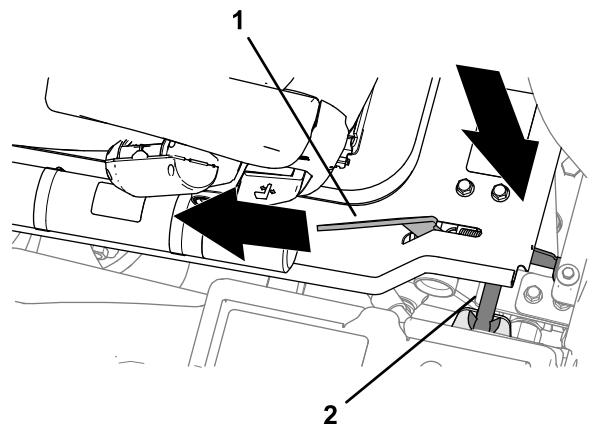

Figure 45
2. As the platform nears the fully lowered position, move the platform-latch handle (Figure 45) toward the front of the machine.